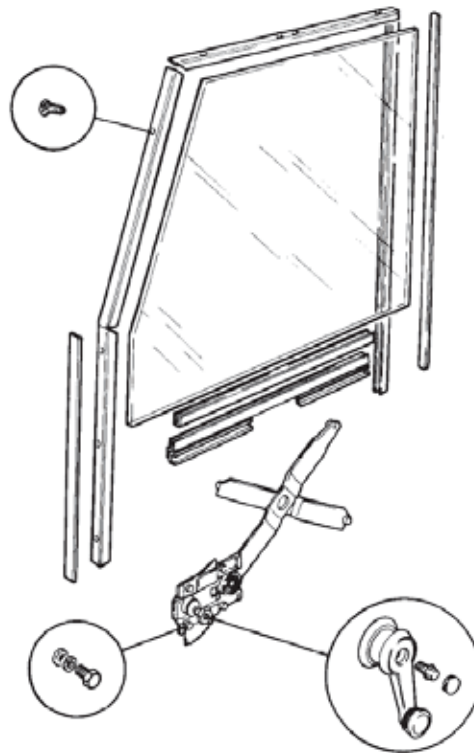

Figure 1 Front Door - Exploded View
6. **Windows.** The doors are provided with wind-up windows (Figure 1) and a window regulator is provided to vary the height of the glass which slides in two weatherproof channels. A weatherstrip is installed in the body around the door opening. When closed the door butts against the weatherstrip effectively sealing against the body.